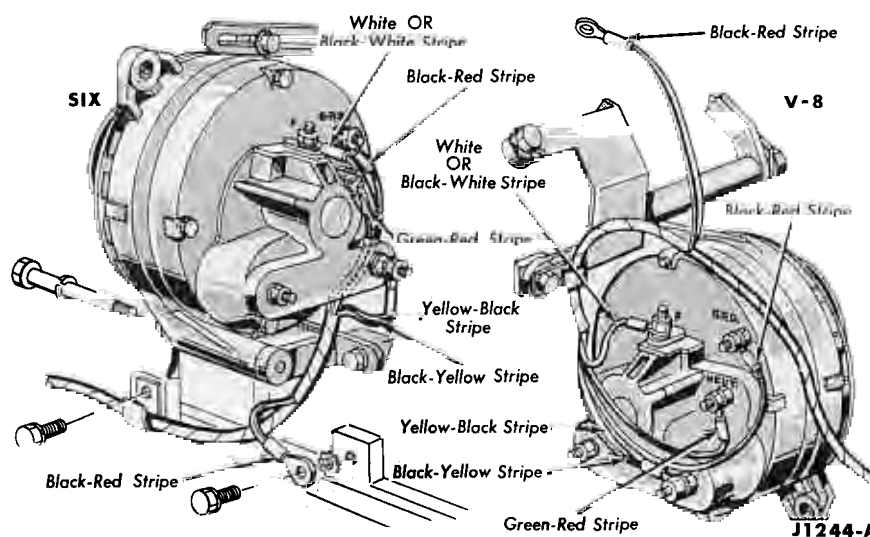

FIG. 1—Alternator Mounting—Typical
The drive end bearing is a sealed ball bearing. The brush end bearing is a needle type bearing and is not sealed. The alternator mountings are shown in Fig. 1.
1. Attach the alternator wiring. Position the alternator to the engine, and install the alternator mounting bolt finger-tight (Fig. 1).